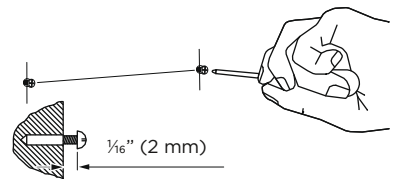
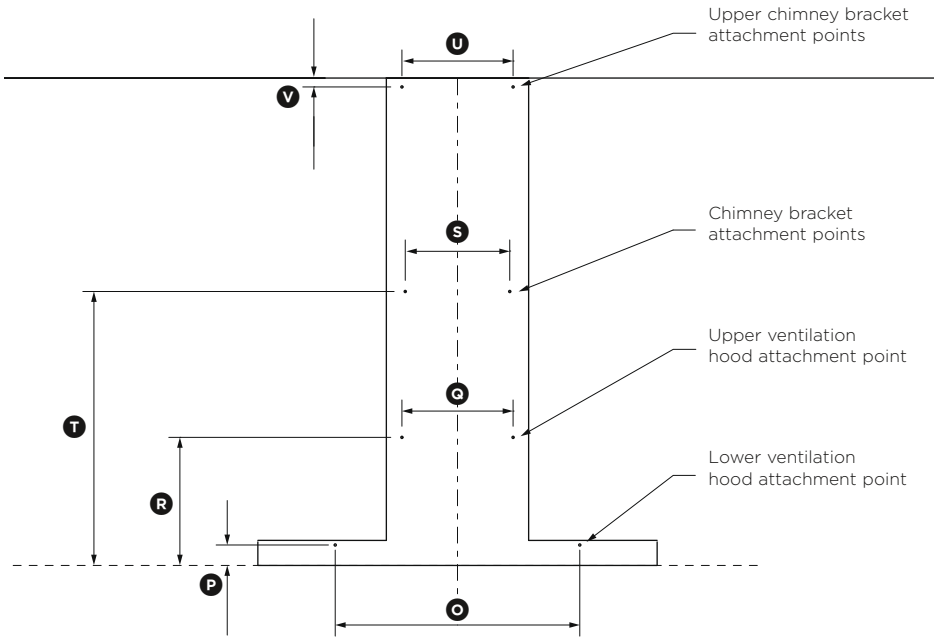

Fig.1
Fig.2
- Attach the chimney bracket and upper chimney bracket (if using the upper chimney) in the locations shown in Fig.2 (refer to page 13) and Fig.3 (refer to page 14). Use the 1 $\frac{3}{16}$ " (30 mm) screws (and expansion plugs if attaching to masonry).
- Attach the upper ventilation hood mounting screws in the locations shown in Fig.2 (refer to page 13) and Fig.3 (refer to page 14). Using the 1 $\frac{3}{16}$ " (30 mm) screws (and expansion plugs if attaching to masonry). Ensure that there is a  $\frac{1}{16}$ " (2 mm) gap between the screw head and the wall (Fig.1).